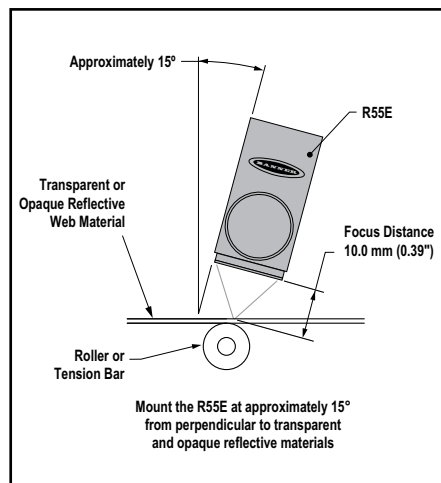

Figure 8. Mounting for sensing opaque reflective and transparent materials
2. When sensing a color mark on a reflective (shiny) material, mount the R55E at an angle that places the lens centerline at approximately 15° off perpendicular to the material's surface (see Figure 8). This "skew angle" will minimize strong direct reflections (which tend to overwhelm the sensor), and allow the sensor to discern the relatively small optical contrast offered by difference in colors.
3. Clear materials are poor reflectors of light. When sensing a mark printed on a clear material (e.g., a clear poly web), position a reflective surface directly behind the clear material that will return light to the R55E. The printed mark, regardless of its color, then becomes the dark condition, as it blocks the light from reaching the reflective surface. Most clear materials are also shiny; it is important also to include a 15° skew angle when sensing clear materials (Figure 8).